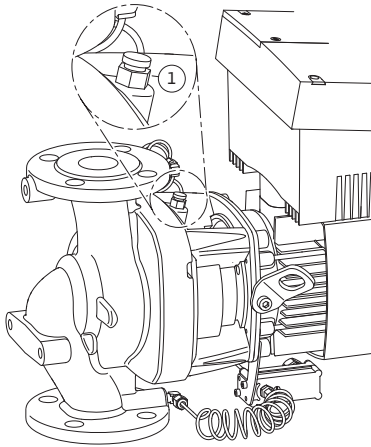

Fig. 41: Bleed valve
- Bleed the pumps by releasing the bleed valves (Fig. 41, Item 1). Dry running destroys the mechanical seal of the pump. The differential pressure sensor must not be bled (risk of destruction).